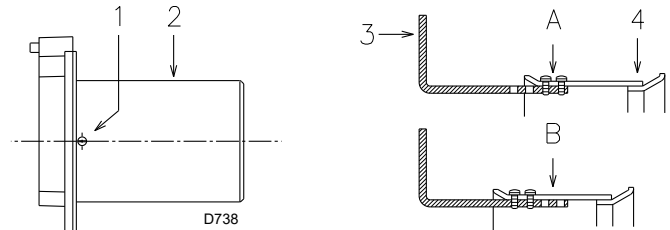

Fig. 13
- loosen the screws 1)(Fig. 13) and disassemble the blast tube 2).
- Move the rod 3) (Fig. 13) from position A to position B, thereby drawing back the shutter 4).
- Reassemble the blast tube 2)(Fig. 13) and the screws 1).